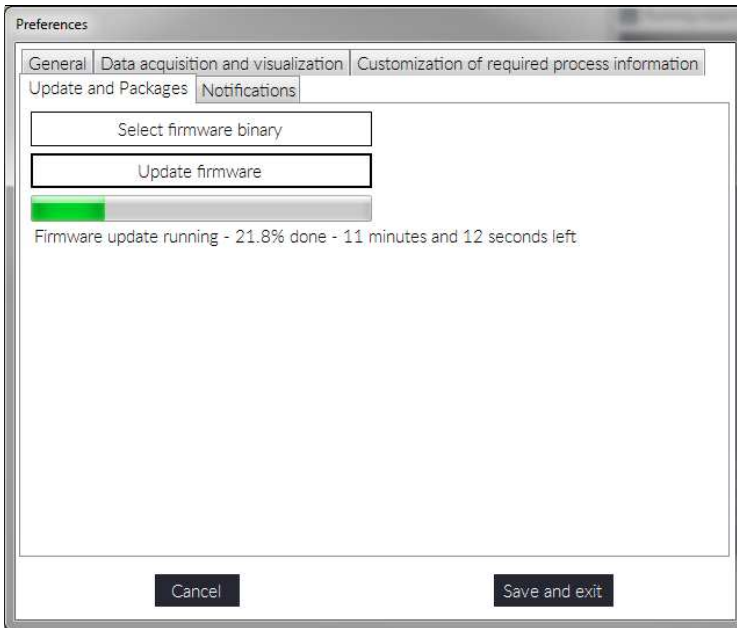
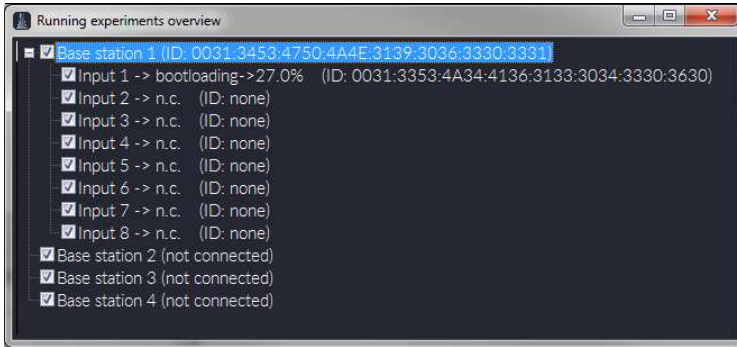

Figure 54: CGQuant preferences window during firmware update.
Figure 55: CGQuant overview window after successful firmware update.
6. Start the firmware update procedure and wait for it to be finished. The firmware update progress is reported in the preferences window and in the overview window, as exemplarily shown in Figure 54 and Figure 55. If there is no observable progress with the firmware update, please power-cycle the complete CGQ system by disconnection the base station from the power supply, waiting for some seconds and reconnecting it again.